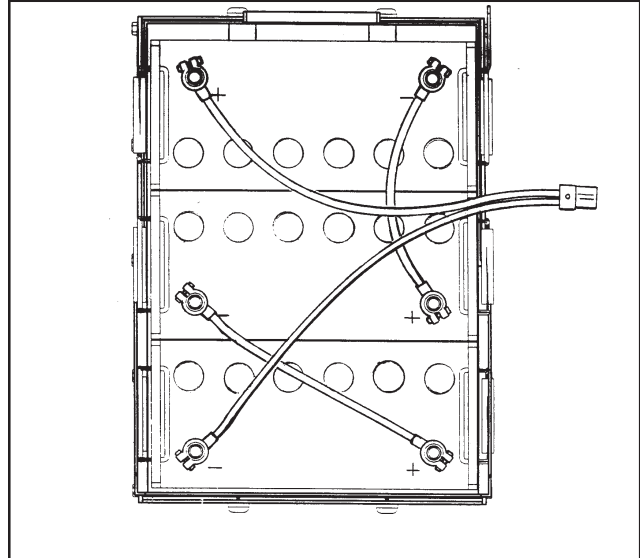

Figure 10
3. Place the batteries in the battery tray as shown in figure 10.
4. Connect the battery cables between batteries and install long battery cable assembly as indicated. See figure 10.